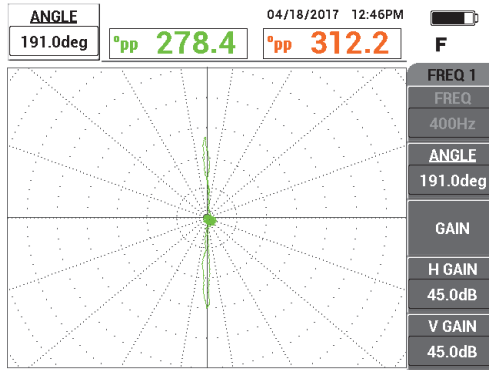

Figure 5-195 Adjusting the signal phase
4. Press the ANGLE key (◁), and then rotate the signal until the thru-wall signal is vertical on the instrument screen (see Figure 5-195 on page 267).